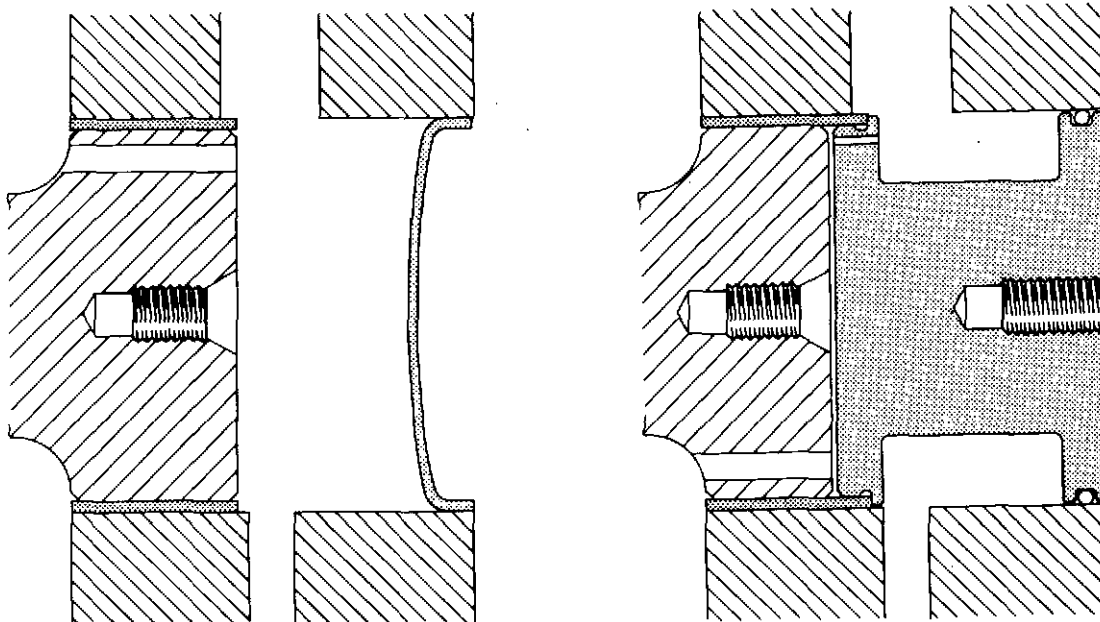

Fig. 15 Cam bore plug ('A' bank) Fig. 16 Bobbin type plug ('A' bank)
- 38 Check the Part Number of the 'A' bank camshaft. For engines fitted with camshaft CV 7863 or CV 11571, the end of the camshaft bore must be sealed with a cup plug as for 'B' bank, (fig. 15). If camshaft CV 11569 is fitted, the camshaft bore must be sealed using the steel bobbin assembly, as shown in in figure 16.